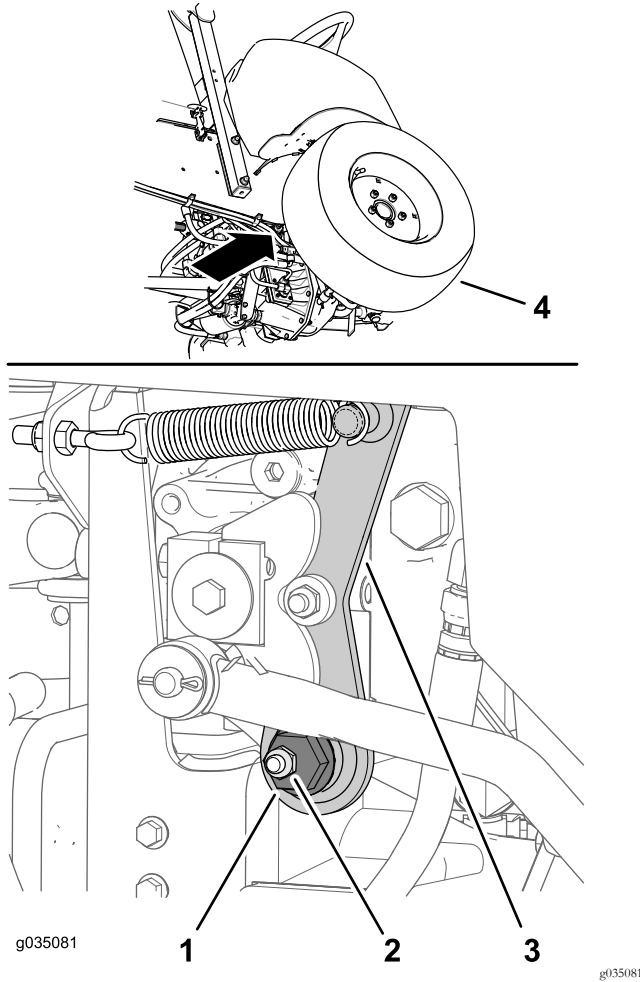

Figure 67
1. Locate the eccentric hex to the right of the hydraulic pump and below the control console (Figure 67).
hex eccentric clockwise until the front wheel starts to rotate rearward (Figure 67).
2. Loosen retaining nut until you can move the eccentric hex (Figure 67).